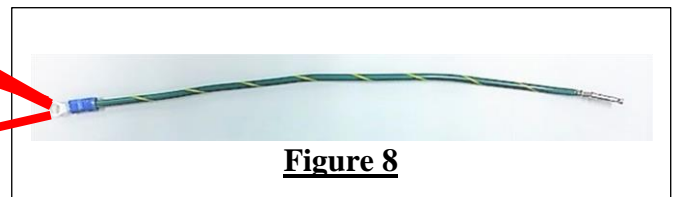

Figure 8
18. Now route the wire (Figure 8) to the screw and place the ring terminal with ground wire attached onto the screw.